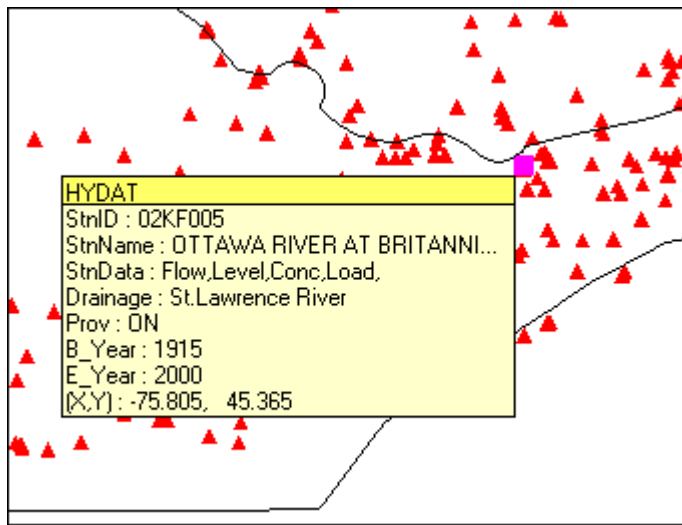

Figure 3.3: The attributes of a station can be accessed in a view window
1. Click on a station within a View, as shown in Figure 3.3. All attributes of the selected station will be displayed.